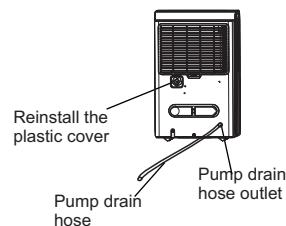

Fig.11
- Remove the continuous drain hose from the unit and install the plastic cover to the continuous drain hose outlet of the unit by clockwise rotation. (See Fig.11)
- Reset the pump drain hose into the pump drain hose outlet for depth of 15mm at least (See Fig.11), then lead the water hose to the floor drain or a suitable drainage facility.